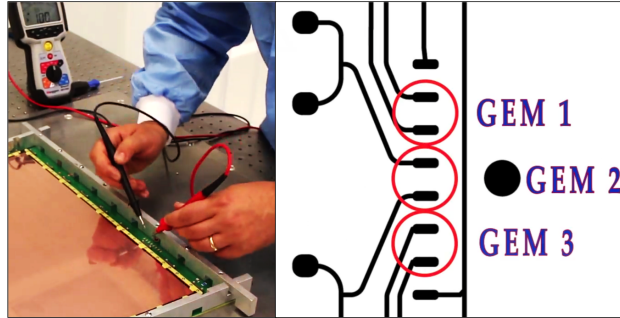

Figure 104: Testing the GEM foils
Step 6: Test the three GEM foils one after the other at 550 V using the dedicated pads on the drift board (Fig. 104). Discharge the foil after each test.